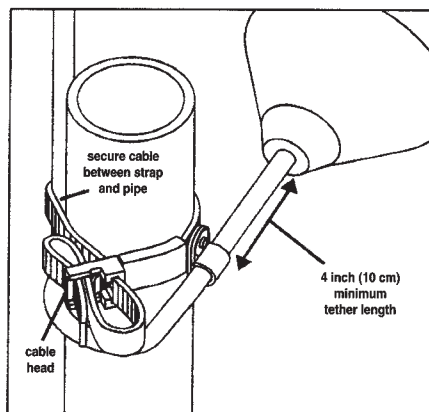

FIGURE 2 -Pipe clamp mounting detail for high water alarm float
3. Mount float switches at appropriate levels via stationary device as illustrated in Figure 2 & 3. Be sure that floats have free range of motion without touching each other or other equipment in the basin.